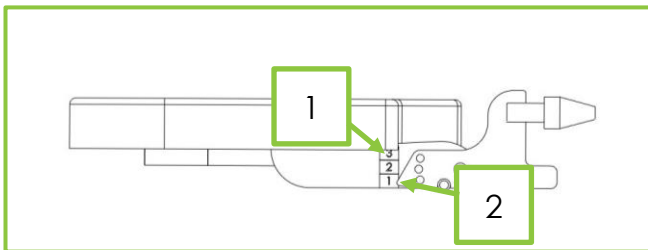

Figure 26
2. Pull and hold the cap of the plunger whilst moving the footplate to the desired measurement. The measurement setting is shown on the scale (Fig 26, Item 1) by the indicator on the frame (Fig 26, Item 2). Setting 1 = 90°, Setting 2 = 105° and Setting 3 = 120° from the vertical.